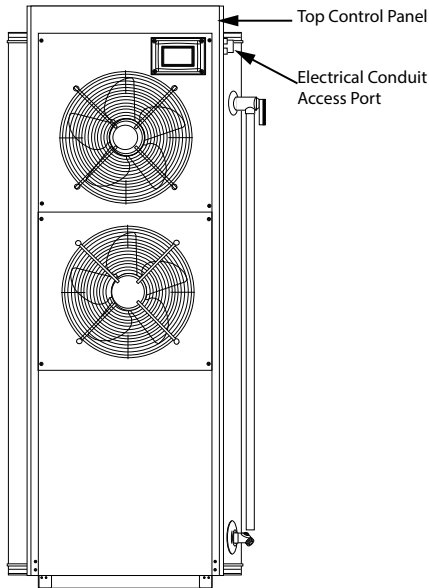

Figure 9. Electrical Installation
- 1) Unlatch the top control panel cover and pick up. See *Figure 1* (page 9) and *Figure 9*.
- 2) Unscrew the power electrical conduit access port. See *Figure 1* (page 9) and *Figure 9*.
4. Run the main power through the power electrical conduit access port. See *Figure 1* (page 9) and *Figure 9*.